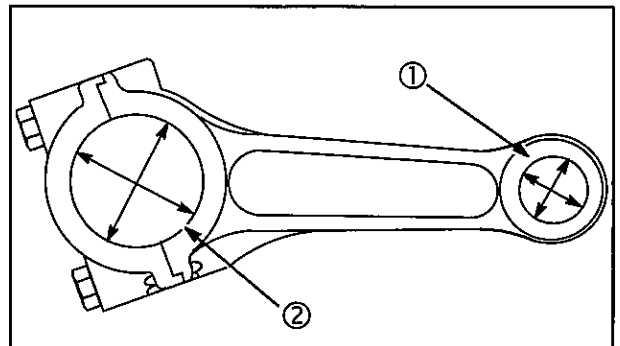

Fig. 7
2. Check connecting rod bearings, Fig. 7.